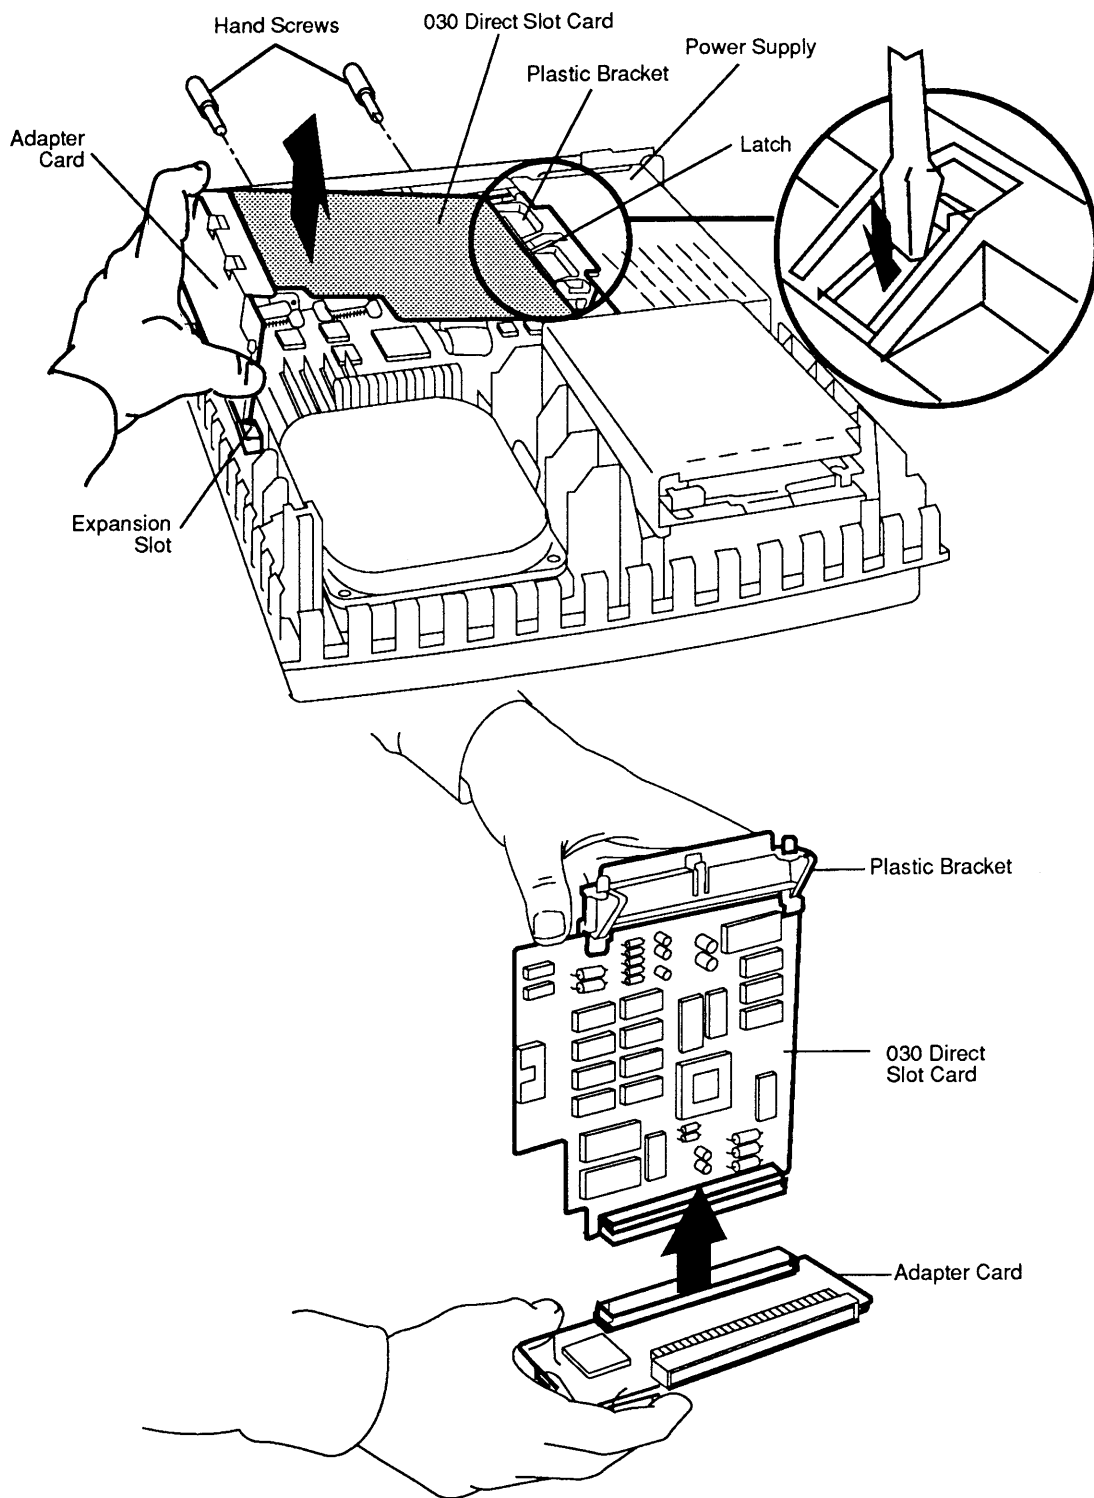

Figure 2-2 The 030 Direct Slot Card
3. With a screwdriver, press down on the latch (**Figure 2-2**) that secures the plastic bracket to the power supply. Remove the plastic bracket from the power supply carefully so that you do not flex the 030 Direct Slot card.